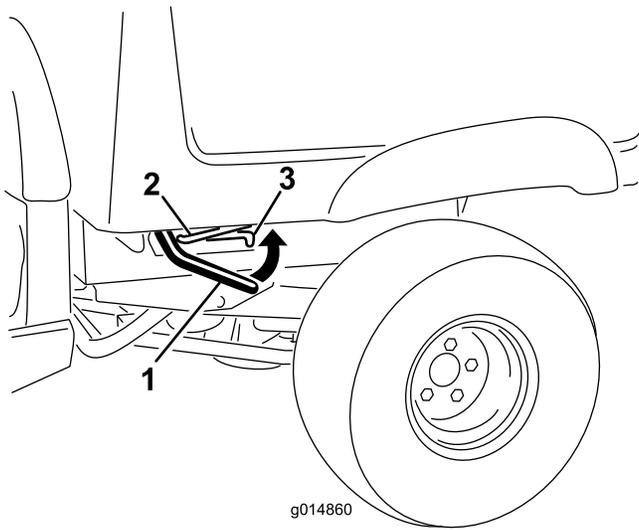

Figure 12
1. Lift the lever on either side of the bed and lift the bed up (Figure 12).
1. Raise the cargo bed slightly by lifting up the latch lever (Figure 12).